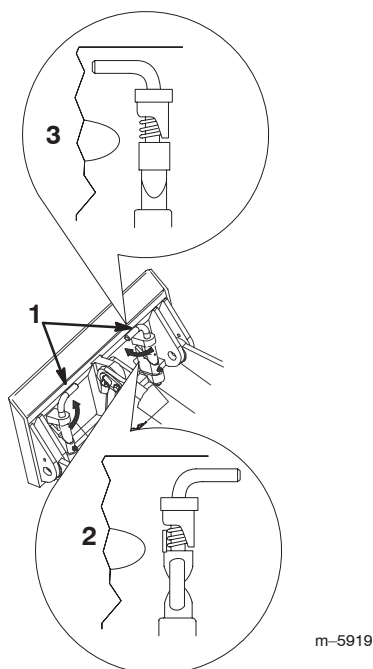

Figure 15
7. Engage the quick attach pins, ensuring that they are fully seated in the mount plate (Fig. 15).